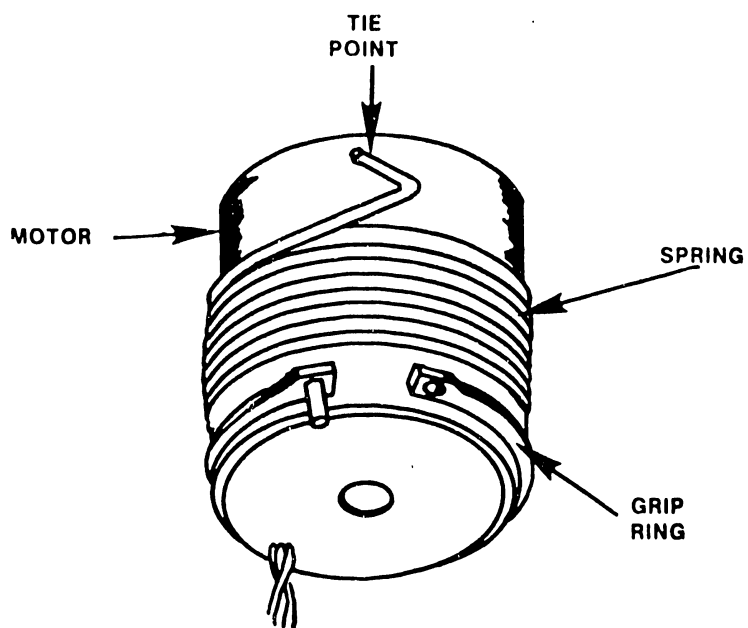

FIGURE 5-21 RIBBON DRIVE MOTOR
1. Open grip ring and rotate it around motor (see Figure 5-21).